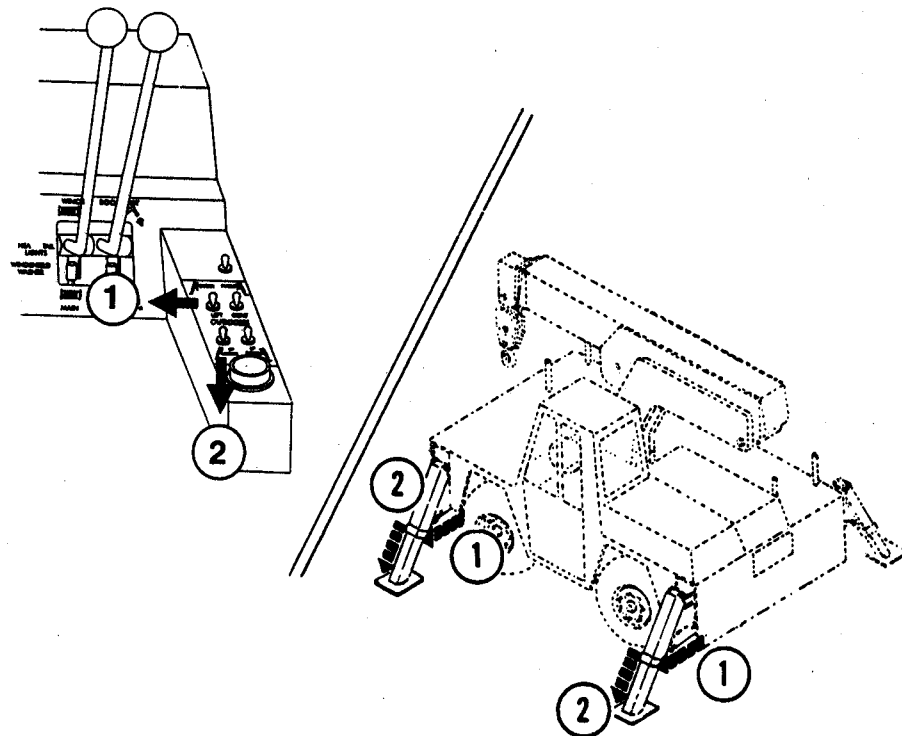

Figure 8. To Extend and Lower the Outriggers
1. To Extend: Run the engine at low rpm (accelerator pedal released). Push and hold the desired switch out as required (Figure 8, Item 1). Push the accelerator pedal to increase engine rpm and accelerate the outward movement of the outriggers. Release the accelerator pedal and the switch when the outriggers are fully extended.
2. To Lower: Hold the desired switch in the down position as required (Figure 8, Item 2). Push the accelerator pedal to increase engine rpm and accelerate the downward movement of the outriggers. Release the accelerator pedal and the switch when the outriggers are fully lowered.